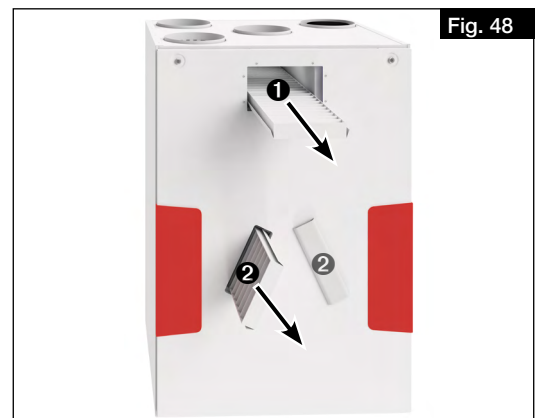

Fig. 48
2. Pull intake air filter **1** to the front and replace (see Fig. 48).